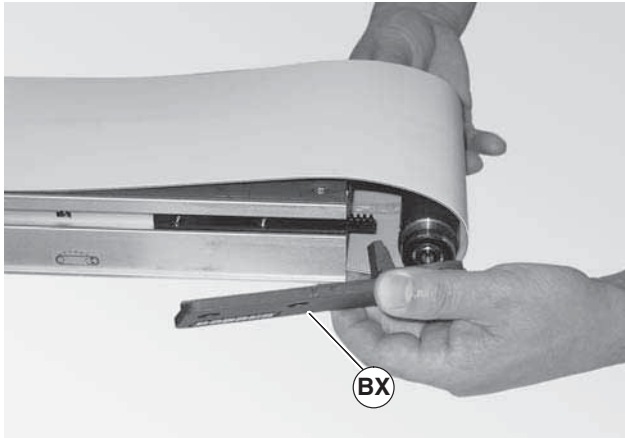

Figure 52
2. Place the head plate (Figure 52, item BX) and attach the head plate to the conveyor frame with the two (2) plates removed. tighten screws 60 in-lb (7 Nm).